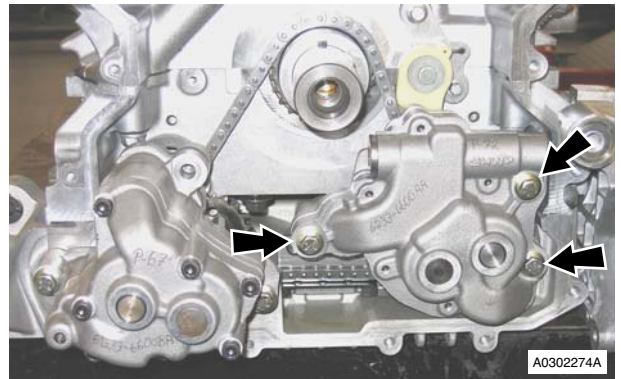

Figure 3
6. Remove bolts (x3) securing oil pressure pump to sump (see Figure 3).